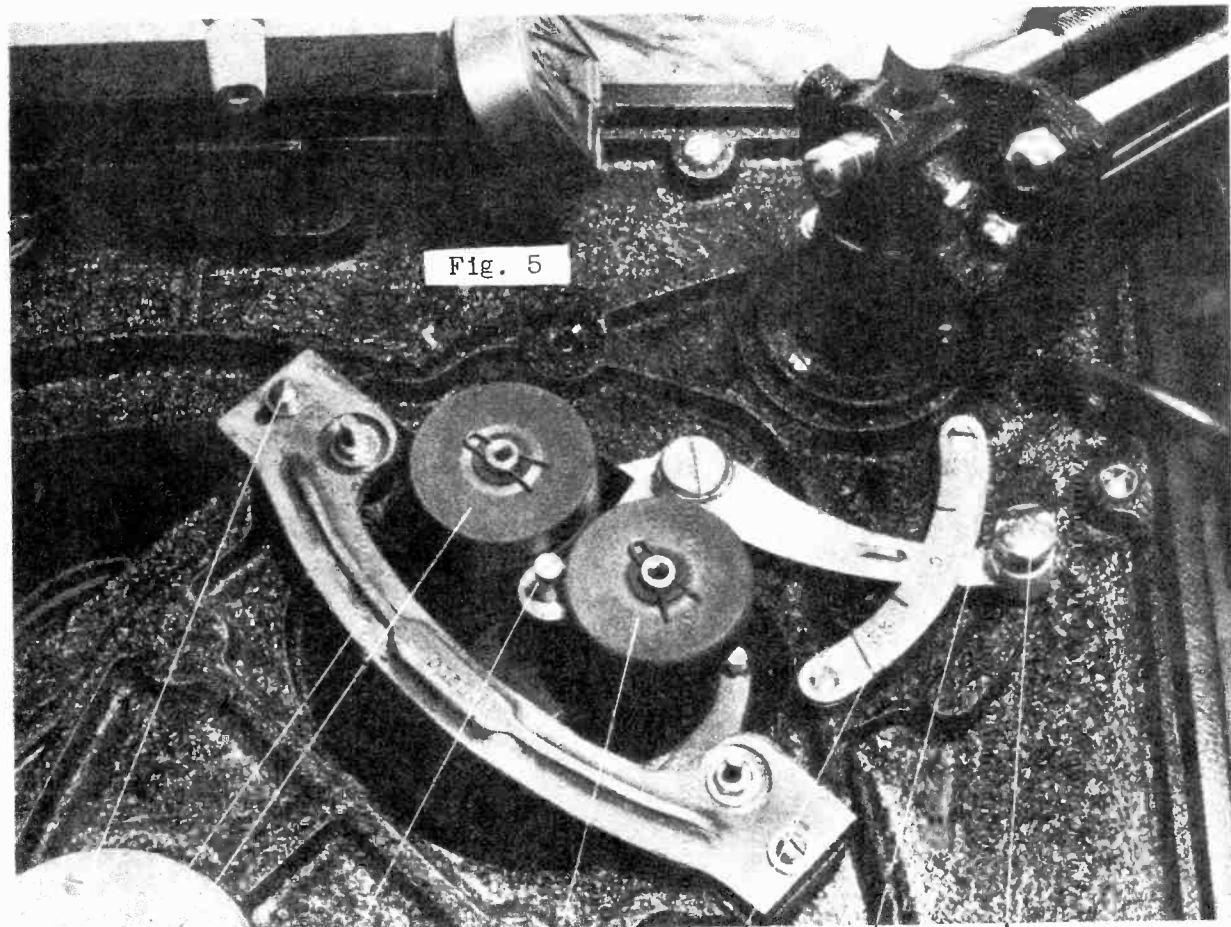

Fig. 5
Replace table in its bearing making sure that the shift lever (31) is locked in neutral position. See Fig. 5. The turntable is driven from its inside rim by means of a synchronous motor and a set of interposed idler wheels (46) and (48) see Fig. (5). The motor is suspended on an extended bracket and it has mounted on its shaft a step pulley (47) having two different diameters. The idler pulleys (46) and (48) are mounted on a forked lever which in turn swings on a bell crank lever which is fastened to the frame of the chassis. When the shift lever is moved to either the 78 or 33 1/3 rpm position the pulleys are made to engage the respective diameters of the step pulley (47) on the motor shaft.